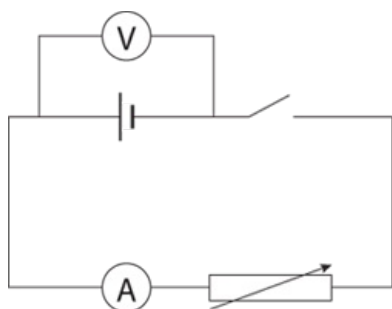

Figure 7.3: Circuit diagram.
- 2 Set up the circuit shown in Figure 7.3. The switch should be open. Adjust the scale on the voltmeter to read 0–2 V to the nearest 0.001 V. Adjust the scale on the ammeter to read 0–200 mA to the nearest 0.1 mA.